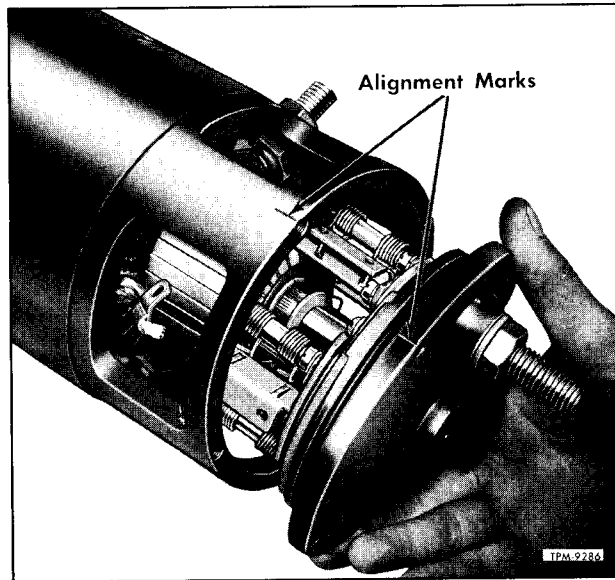

Figure 8—Installing Commutator End Frame
6. Place thrust washer over commutator end of armature shaft. Place new O-ring in groove around commutator end frame. With marks made prior to disassembly aligned, install end frame to field frame as shown in figure 8. Attach end frame to field frame with four cap screws and lock washers; tighten firmly. Through openings in field frame, install brushes and connect field coil leads to brush holders as previously directed in "Brush Installation" under "Maintenance."